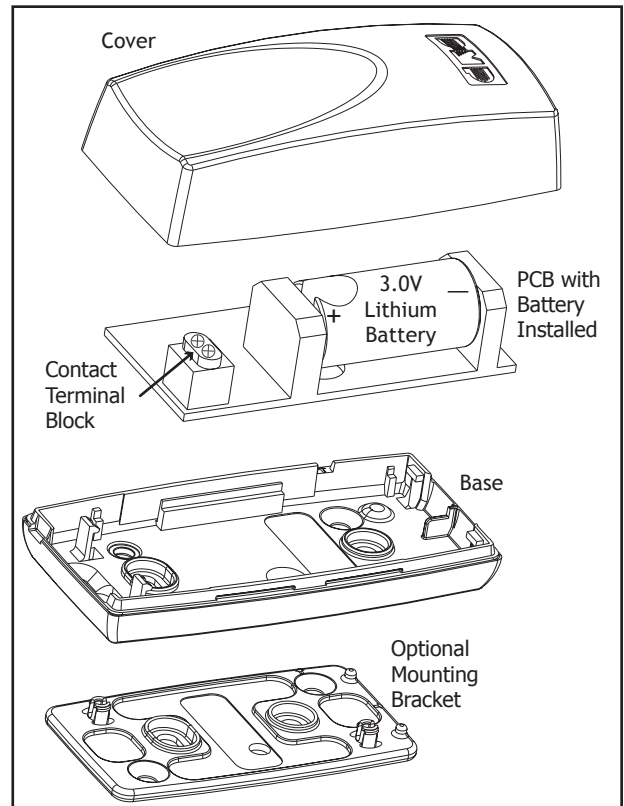

Figure 5: 1102 Transmitter Exploded View
2. Place the 3.0V Lithium battery in the holder as shown in Figure 5 and press into place.